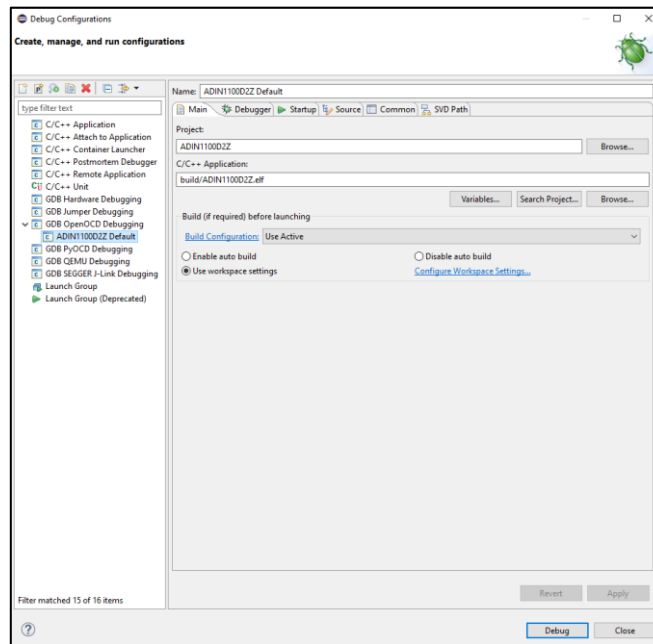

Figure 6: Debug Configuration
2. Under **Project Explorer** tab, right-click on **ADIN1100D2Z** and select **Debug As -> Debug Configurations**. The **Debug Configurations** window appears as shown in Figure 6.